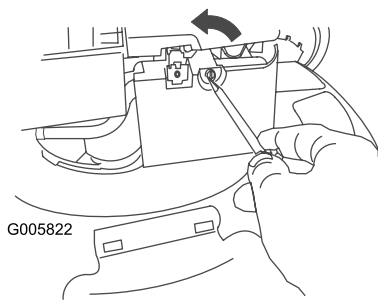

Figure 28
1. Use a screw driver to open the air filter cover (Figure 28).